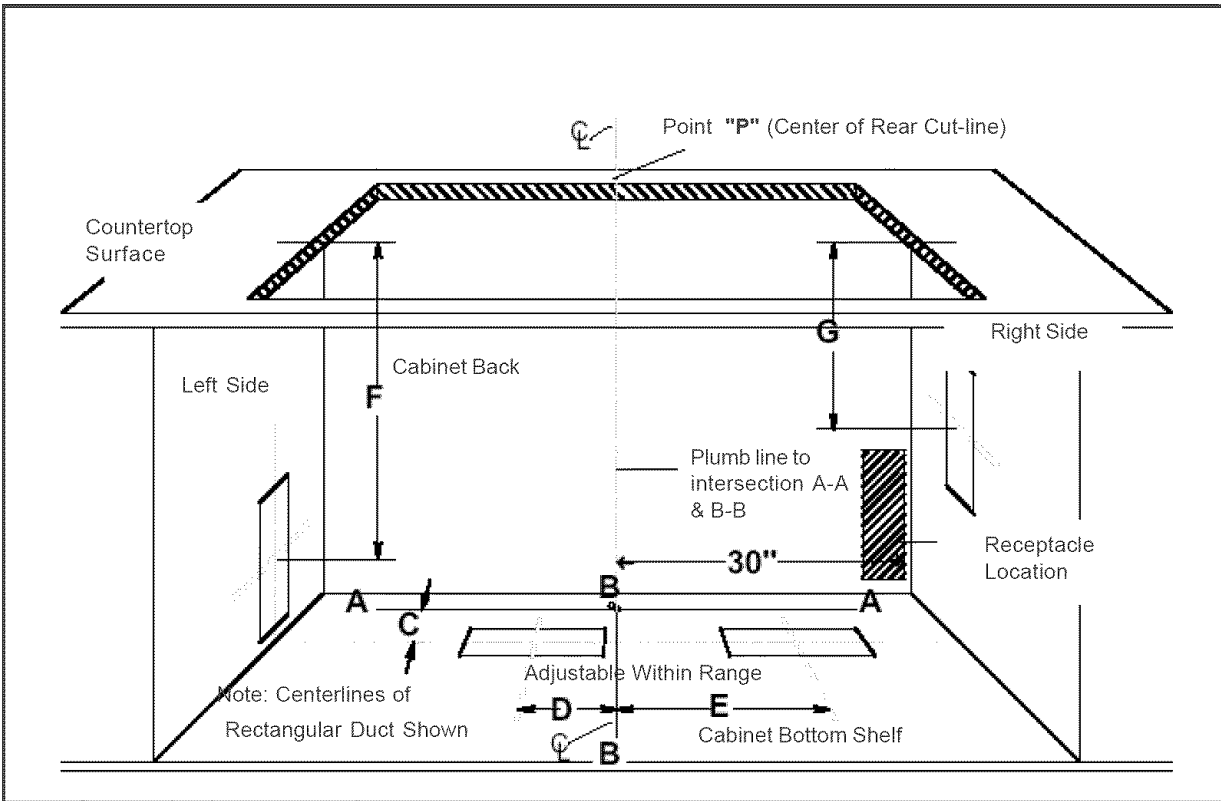

Figure 9: Cabinet Cutout for Ductwork
- A. Refer to Figure 9. Drop a plumb-line from Point "P" at the rear center of the countertop cutout. Mark this point on the bottom of the cabinet below. Construct two reference lines through this point: one should be parallel to the cabinet front and directly below the rear countertop cutout (Line A-A), and the other (Line B-B) should be at right angles to A-A.
The receptacle should be located under the countertop so that the 30 inch long power cord from the vent will reach it. See Figure 9. The cord should be routed beneath the appliance and away from heat generated by the cooktop. Access should not be obstructed by blower, cabinet work, ductwork or electrical/gas utilities for the cooktop. All power for the vent system (including the remote blower, if used) is supplied via the cord to the intake unit. The outlet can usually be extended from another kitchen outlet or have its own circuit from the main service panel.